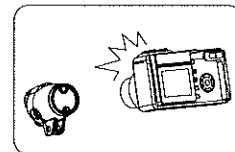

Figure 5
1. After choosing a setting as described above, point the camera at the front of the strobe and take a picture (Figure 5).